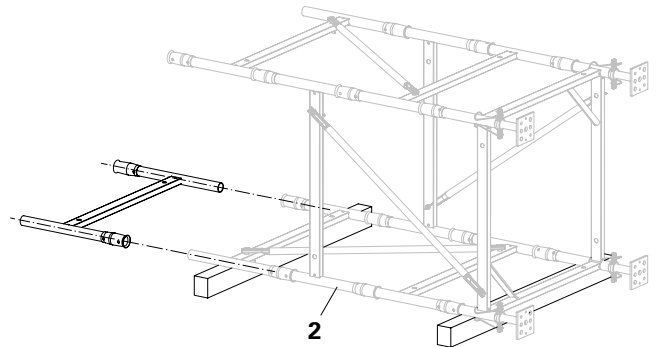
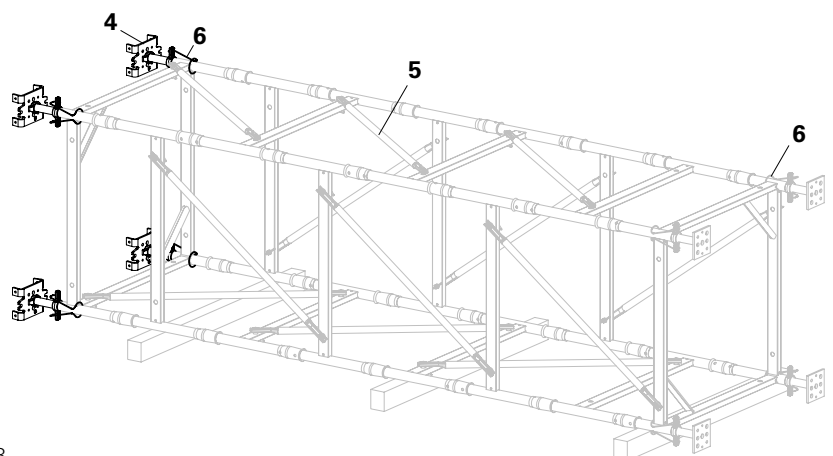

Fig. A1.06
Fig. A1.08
1. Mount Stacking Frames (2) until required height has been reached (4 pieces per metre of height). (Fig. A1.06)
2. Install Diagonal Struts (5) keeping pace with assembly progress.
3. Insert Base-Head Frame (1).
4. Adjust Head Spindle (4) accordingly. Take into consideration the maximum spindle extension (see design tables)!
5. Insert Head Spindle into the Base-Head Frame and secure with Safety Straps (6). (Fig. A1.08)